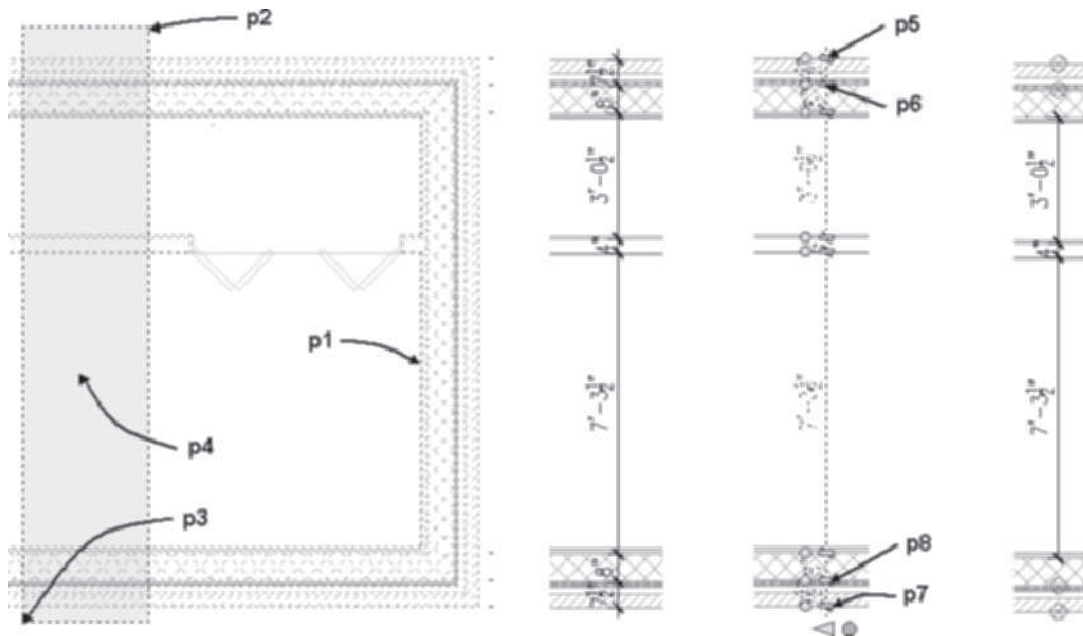

FIGURE 11.26 Applying the Interior AEC Dimension
Select Objects or: (Select the wall at **p1** as shown in Figure 11.26 to specify the dimension line alignment.)
Select Objects or: (Create a crossing selection by selecting a point at **p2** as shown in Figure 11.26.)
Specify opposite corner: (Select a point at **p3** as shown in Figure 11.26.)
Specify insert point or: (Choose a point near **p4** to specify the dimension line location as shown in Figure 11.26.)
11. Select the Interior dimension placed in step 9 to display the grips. Select the **Remove Extension Line** grip at points **p5**, **p6**, **p7**, and **p8** as shown in Figure 11.26. Remove Points Markers will be displayed since extension lines have been removed; however, the points will not plot since they are placed on the G-Anno-Nplt layer. Press ESC to clear the grips.